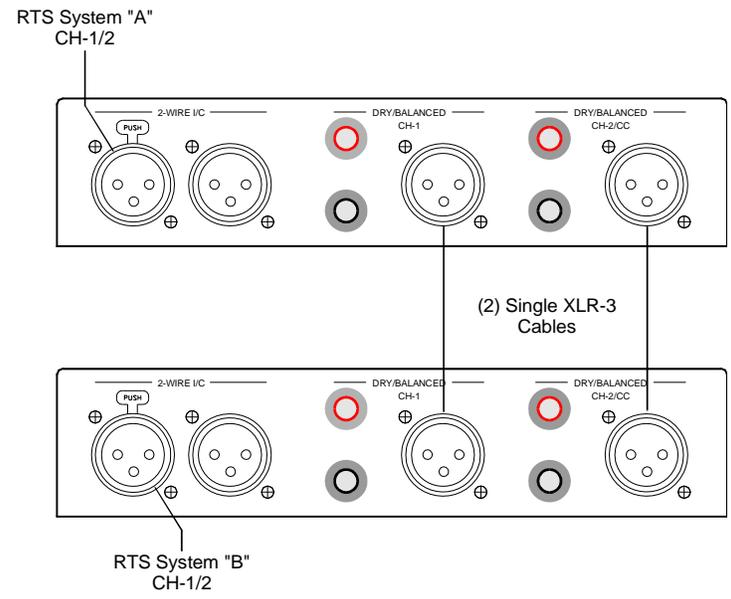

Figure 3.1
Figure 3.1 shows the connection scheme for an RTS MCE-325. In this application, the CH-3/4 connection is used for audio application as IFB and Stage Announce (SA). Since no power-supply will be used, the current source circuits must be terminated by some other means to maintain proper audio levels. A resistive terminator plug can be constructed with two 200 ohm resistors soldered to an XLR connector and plugged into the loop connection of the AOB-2. (See Section 4 for details on wiring the terminator).